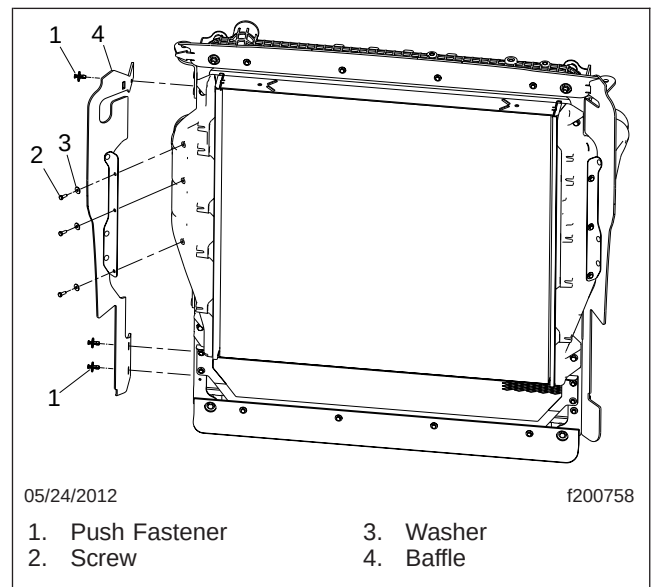

Fig. 7, Radiator Baffle, Right Side
- 13.2 Remove the radiator baffle from the right side of the radiator. See Fig. 7.
- 5.3 Install the right-side radiator baffle. See Fig. 7.